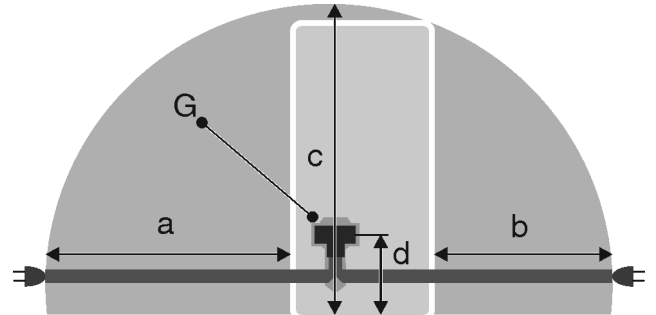

Fig. 29
- The socket is not located behind the appliance but in areas a or b Fig. 29 (a, b, c).
- ▶ Insert the appliance plug Fig. 29 (G) on the rear side of the appliance. Ensure that they latch into place correctly.